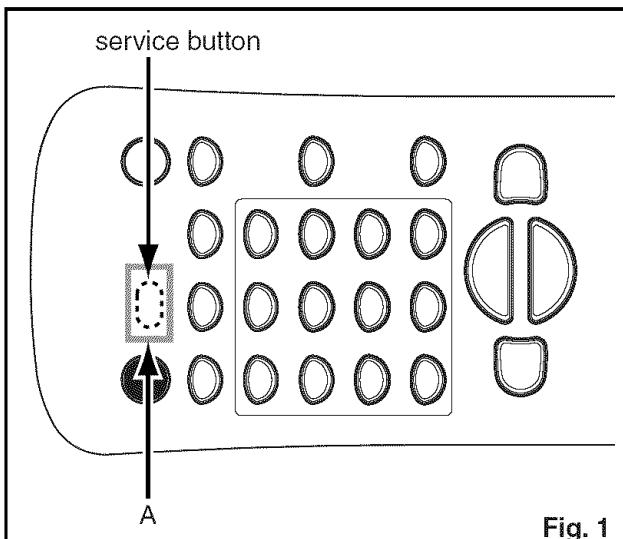

Fig. 1
Cut "A" portion of the attached remote control unit as shown in Fig. 1.
3. Press the service button on the service remote control unit as shown in Fig. 1.